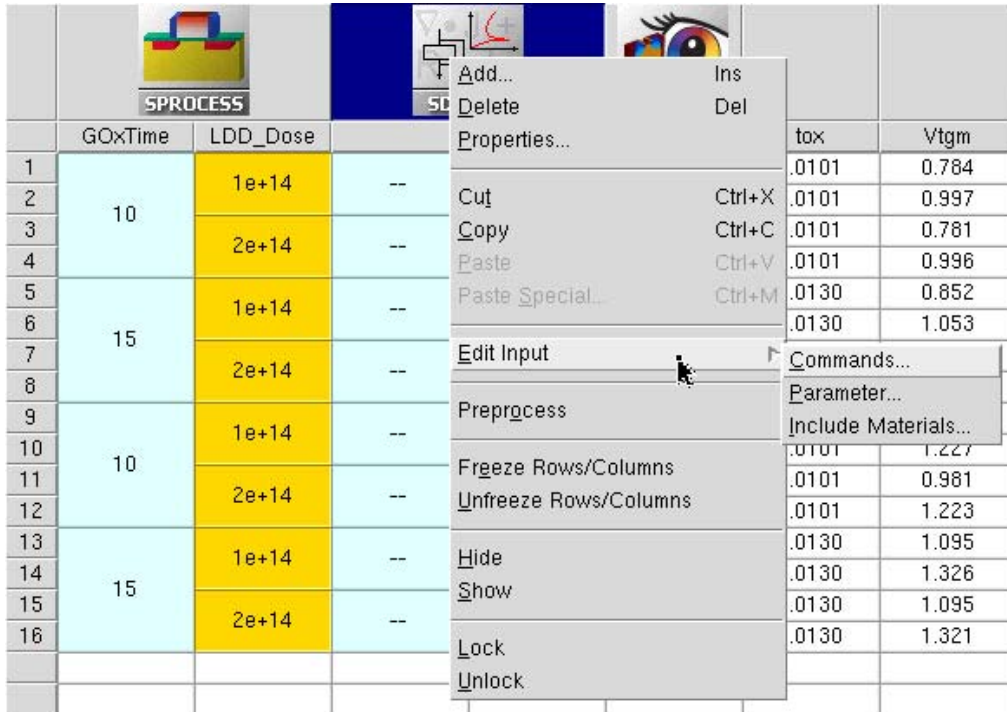

Figure 31 Selecting a tool input file to edit
2. Choose **Tool > Edit Input** and select the required input file. Alternatively, right-click the tool icon and select **Edit Input** and then the required input file (see Figure 31 on page 64).